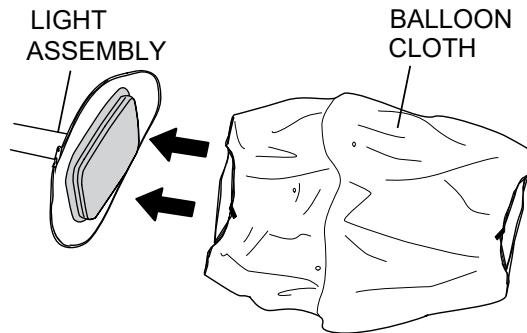

Figure 35. Installing New Balloon Cloth
3. Slide the new balloon (Figure 35) cloth over the top of the light assembly.